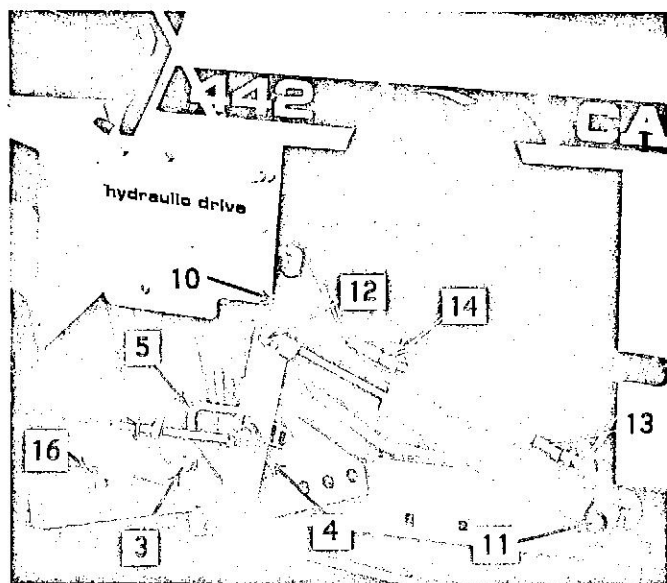

Figure 4. Hydraulic Lift Assembly
3. Secure the stop bracket to the tractor frame as shown in Figure 4 using the two 3/8" x 7/8" hex head bolts, nuts, and lockwashers.
11. Remove the 5/8" hex nut and 1 plain washer from the stud at the pivot end of the cylinder. Insert the stud through the tractor frame as shown in Figure 4 and secure with the plain washer and hex nut.